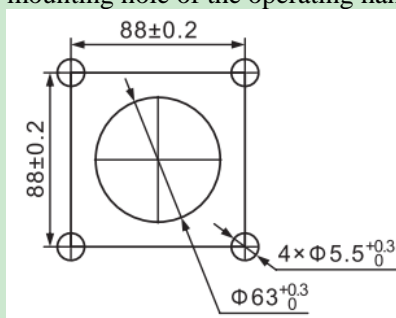
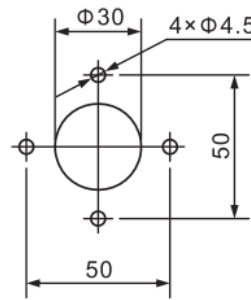

Fig. 14 Dimension drawing of the mounting hole of the operating handle out of the A type cabinet
Fig. 15 Dimension drawing of the mounting hole of the operating handle out of the B type cabinet
6.10 The size of the mounting hole of the operating handle out of the cabinet are illustrated in Fig. 14 and Fig. 15